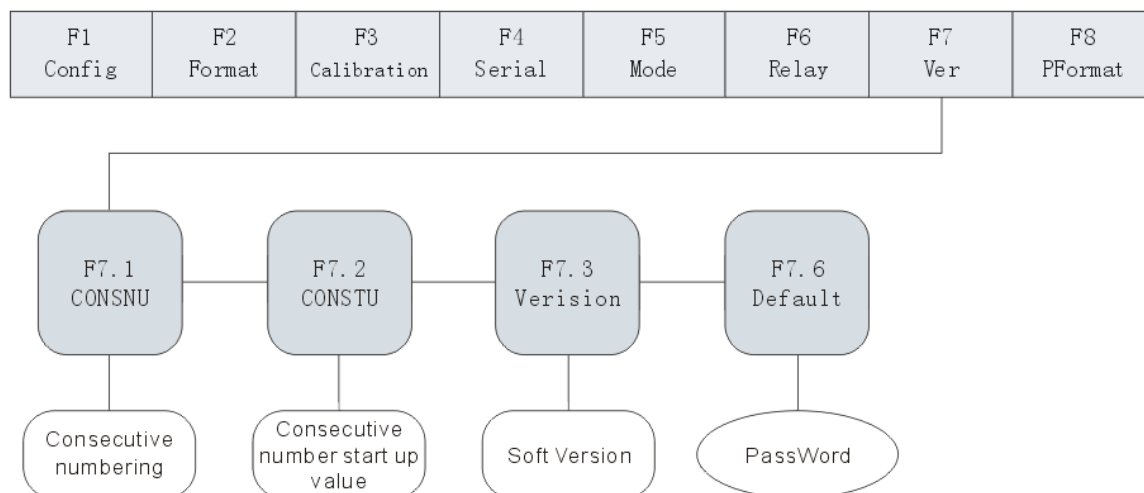

Fig. 9-1 F7(Ver) Menu
- (1) Set indicator to Configuration mode. Display shows "F 1".
- (2) Press  until display shows "F 7" (see Fig. 9-1). Press  to go to F7 Menu. Display shows "F 7.1". Press  twice until display shows "F 7.3".
- (3) When indicator shows "F 7.3", press  again, display shows the current software version "XX.XX". Software version cannot be edited.
- (4) Press  to return to F7.3 Menu. Display shows "F 7.3".
- (5) Turn off the J1 switch to exit from the configuration mode and enter into weighing mode.
- (2) Press  until display shows "F 7" (see Fig. 9-1). Press  to show "F 7.1". Press  until display shows "F 7.6".